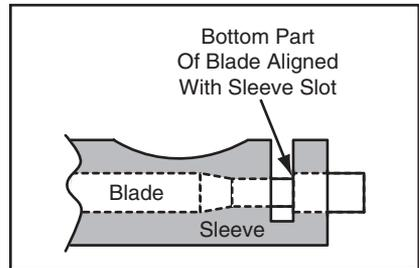

Figure 4. Bottom of blade properly aligned with the sleeve slot.
5. Thread the blade sleeve into the housing so that the bottom part of the blade is aligned with the blade sleeve slot, as illustrated in **Figure 4**, then secure it in place by tightening the thin hex nut against the housing.